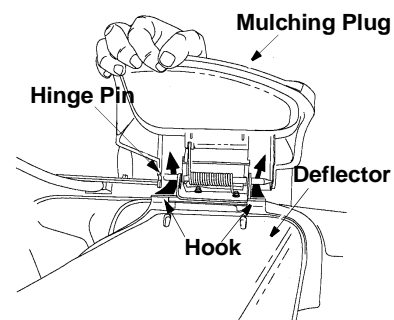

Figure 8
- On the right side of the mower, lift the mulching plug. See Figure 8.